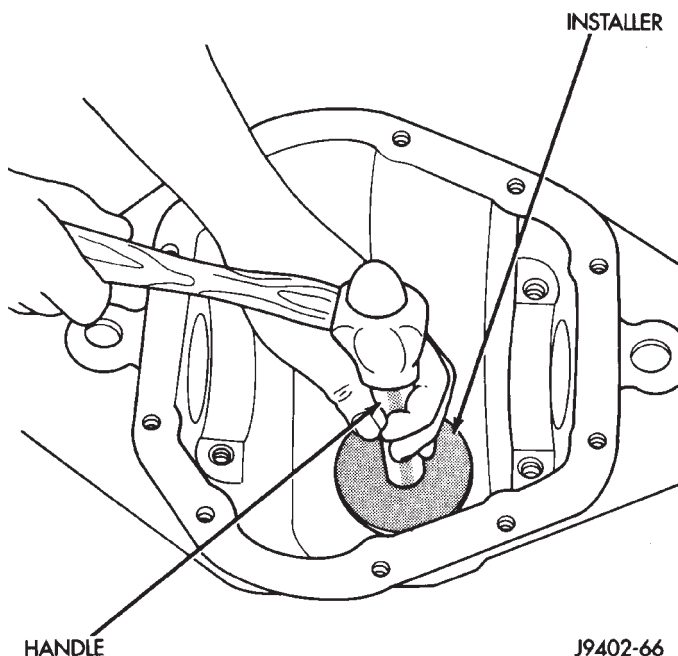

Fig. 43 Rear Pinion Bearing Cup Installation
(1) Place proper thickness depth shim in rear pinion bearing cup bore in the axle housing.
(2) Apply Mopar® Door Ease, or equivalent, stick lubricant to outside surface of rear pinion bearing cup. Install the bearing cup with Installer D-146 and Driver Handle C-4171 (Fig. 43). Verify cup is correctly seated.